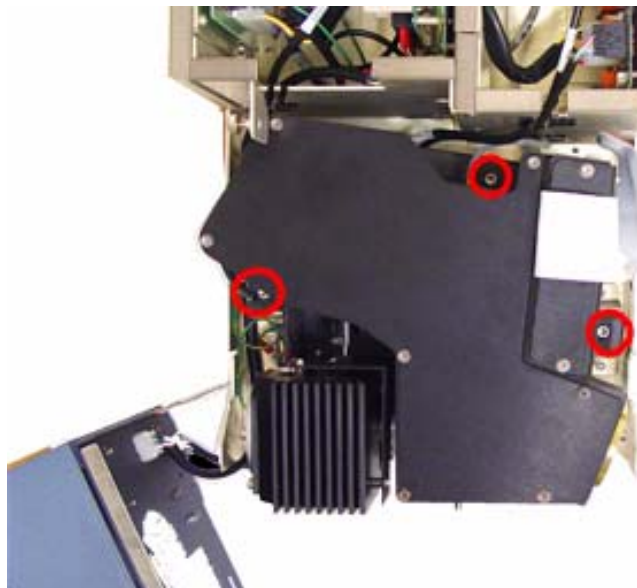

Figure 10 - Location of Optics Bench Screws
3. Install the three long T20 Torx screws that secure the optics bench to the chassis bottom (Figure 10).